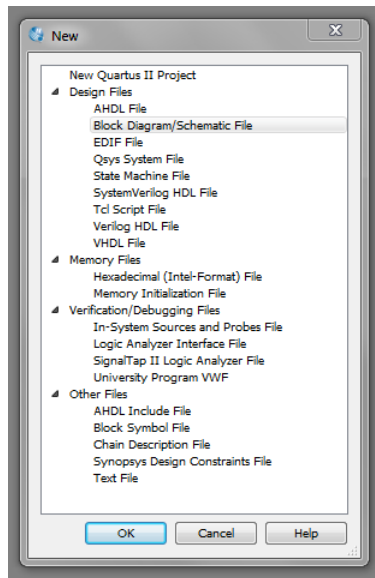

Figure 4.3.1: Creation menu
2. Select “Block Diagram/Schematic” (Figure 4.3.1) and click OK.